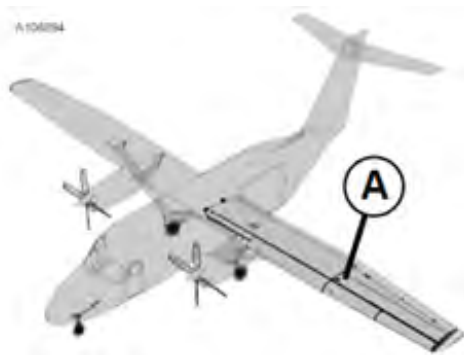

Figure 3
- (j) Make sure that the below wing vent scoops are open and are free and clear of foreign object debris (FOD). Ref Figures 3 and 4 of this section.